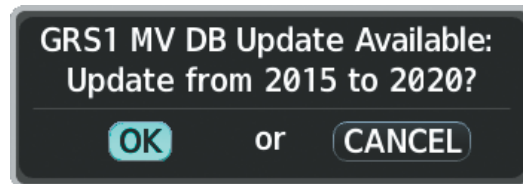

Figure B-13 GRS1 Magnetic Field Variation Database Update Prompt
A copy of the current magnetic field variation database (MV DB) is included with the navigation database. At startup, the system compares this version of the MV DB with that presently being used by the AHRS (GRS1). If the system determines the MV DB needs to be updated, a prompt is displayed on the MFD, as shown in Figure B-13.
- 1) With 'OK' highlighted, as seen in Figure B-13, press the **ENT** Key on the MFD. A progress monitor is displayed as shown in Figure B-14.